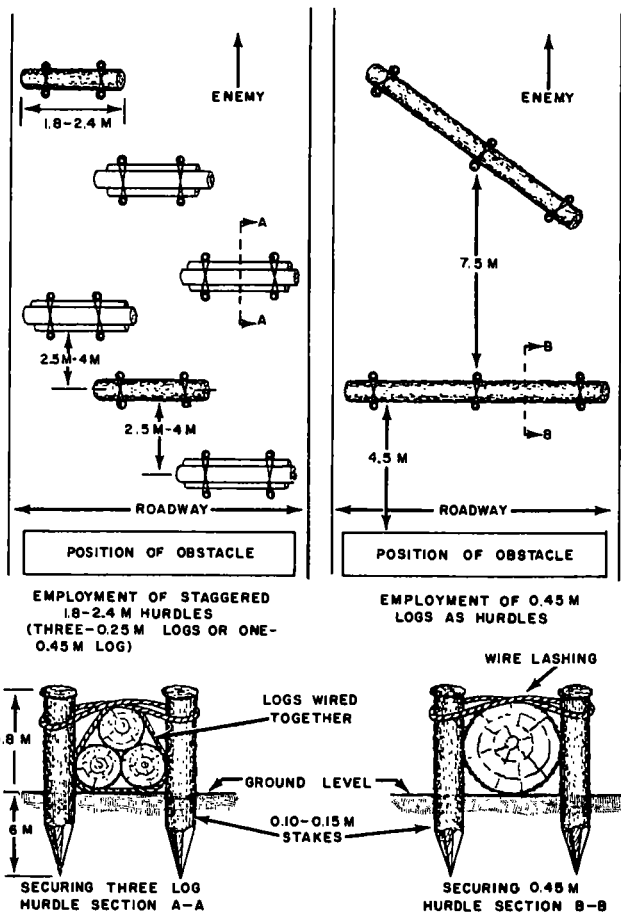

Figure 159. Types of log hurdles.
- (1) *Hurdles.* Log hurdles formed of 0.25 m to 0.45 m logs as shown in figure 159 may be used to add to the obstacle effect of a crater, or other type of roadblock. A hurdle of this type stops or damages most wheeled vehicles. Tanks can cross them at reduced speed on reasonably level ground but are stopped by hurdles on uphill grades which approximate the critical grade of the vehicle. The hurdle should be sited on the steepest part of